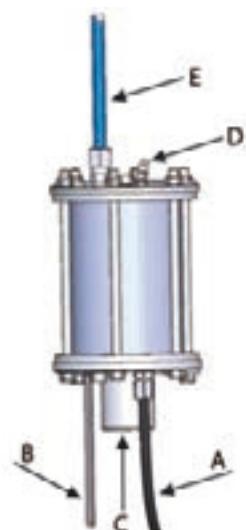
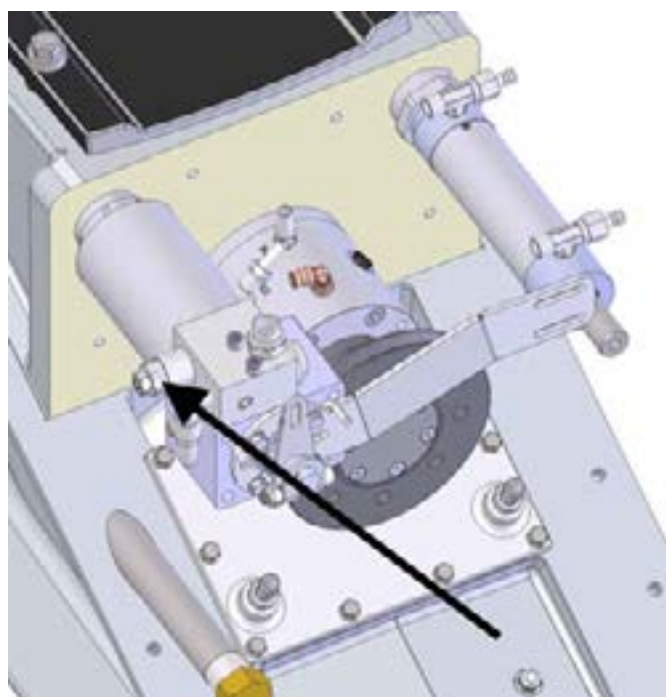

Figure 21. Automatic lubrication unit
Figure 22. Adjusting the automatic lubrication unit
The automatic lubrication unit (figure 21) decreases the need for maintenance because it feeds grease to the rear bearing each time the jet's main shaft rotates. The grease going to the rear bearing lubricates the bearing, and it also prevents water from leaking into the bearing housing. The amount of grease is adjusted with a screw in the hydraulic cylinder, which tightens the spring (figure 22). When you loosen the screw, the amount of grease decreases.
- If the automatic lubrication unit feeds too much grease (the reservoir empties too soon), reduce the pressure by loosening the adjusting screw (figure 22).
- If the automatic lubrication unit does not feed grease to the rear bearing (cold conditions, thick grease type), increase the pressure by tightening the adjusting screw (figure 22).
You can fill the reservoir by pushing grease into it with a grease gun through the nipple (figure 21, point D). Then the piston (figure 23, point A) will protrude out of the reservoir.